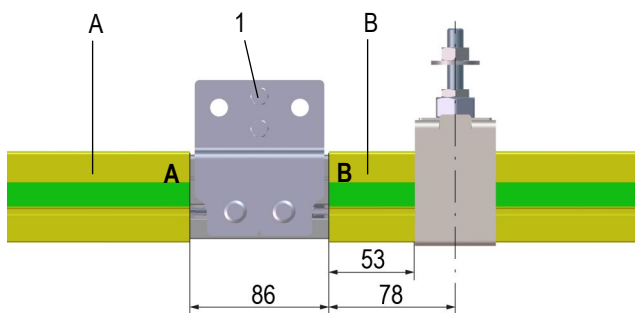

Fig. 29: Installing the PE rail connector PE and insulating profiles
- Push section A, a PE rail connector (1) and section B onto the aluminum profile and align them. Comply with the distances specified in Fig. 29.